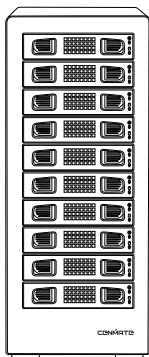

Fig.5
5. Slide the hard drive tray back into the slot to complete the HDD installation (Fig.5)